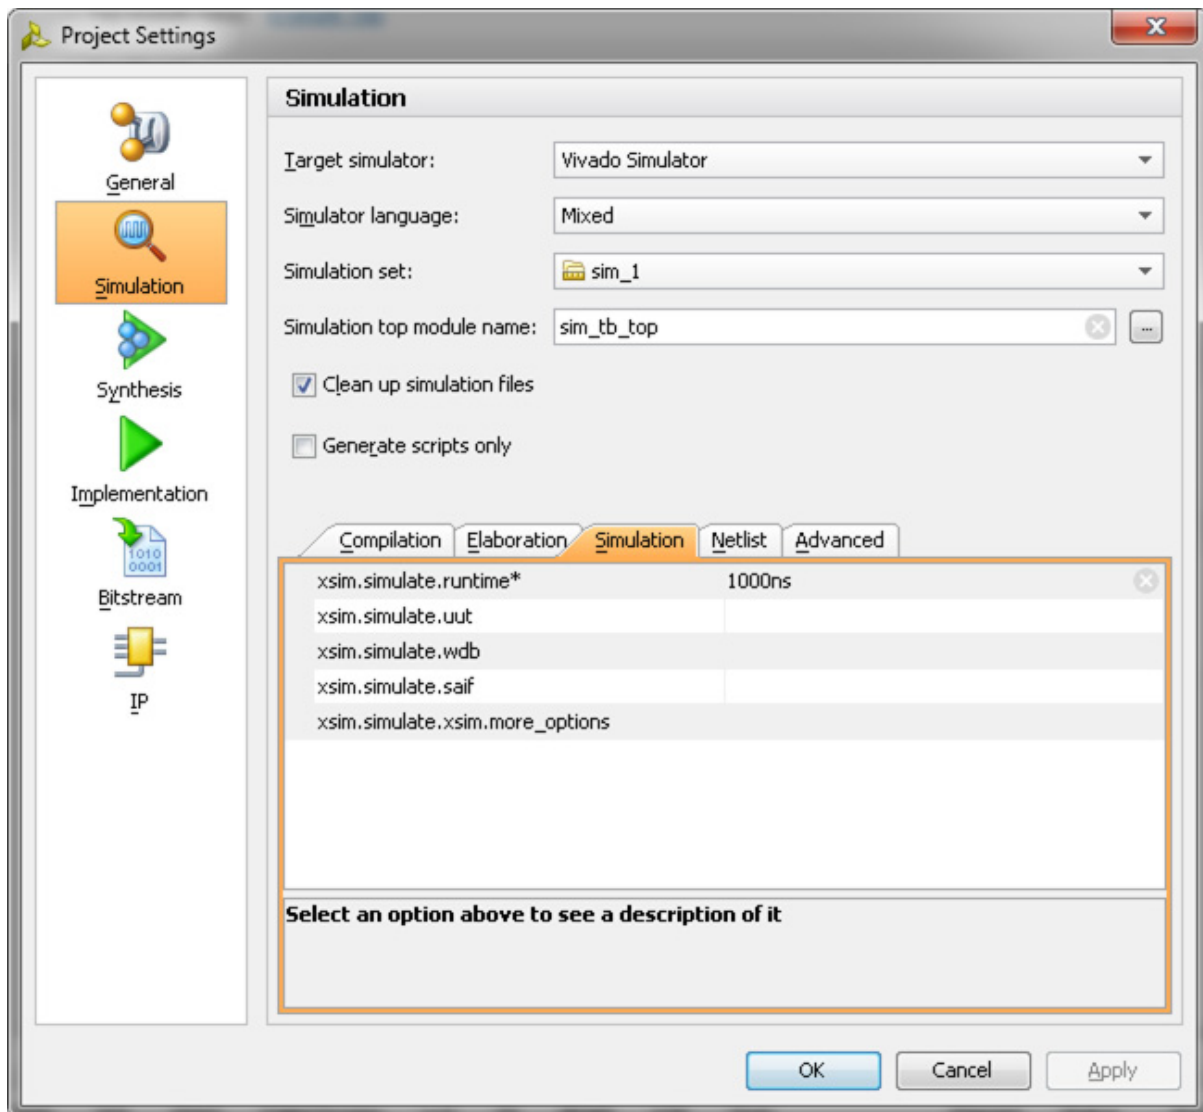

Figure 4-39: Simulation with Vivado Simulator
1. In **Open IP Example Design** Vivado project, under **Flow Navigator**, select **Simulation Settings** (Figure 4-39).
2. Under the **Simulation** tab as shown in Figure 4-39, set the `xsim.simulate.runtime` as 1 ms (there are simulation RTL directives which stop the simulation after certain period of time, which is far less than 1 ms). Apply the settings and select **OK**.
- b. Under the **Simulation** tab, set the `modelsim.simulate.runtime` to 1 ms (there are simulation RTL directives which stop the simulation after certain period of time, which is far less than 1 ms), set `modelsim.simulate.vsim.more_options` to **-novopt** as shown in Figure 4-39.